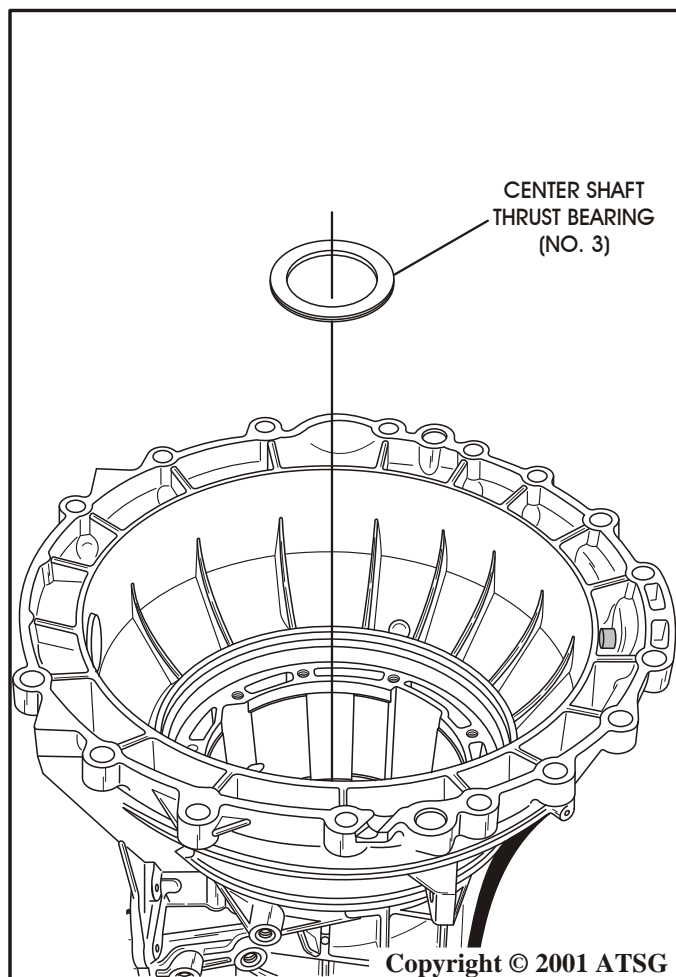

Figure 161
45. Install the center shaft to center support thrust bearing (No. 3) onto the center support, as shown in Figure 161.